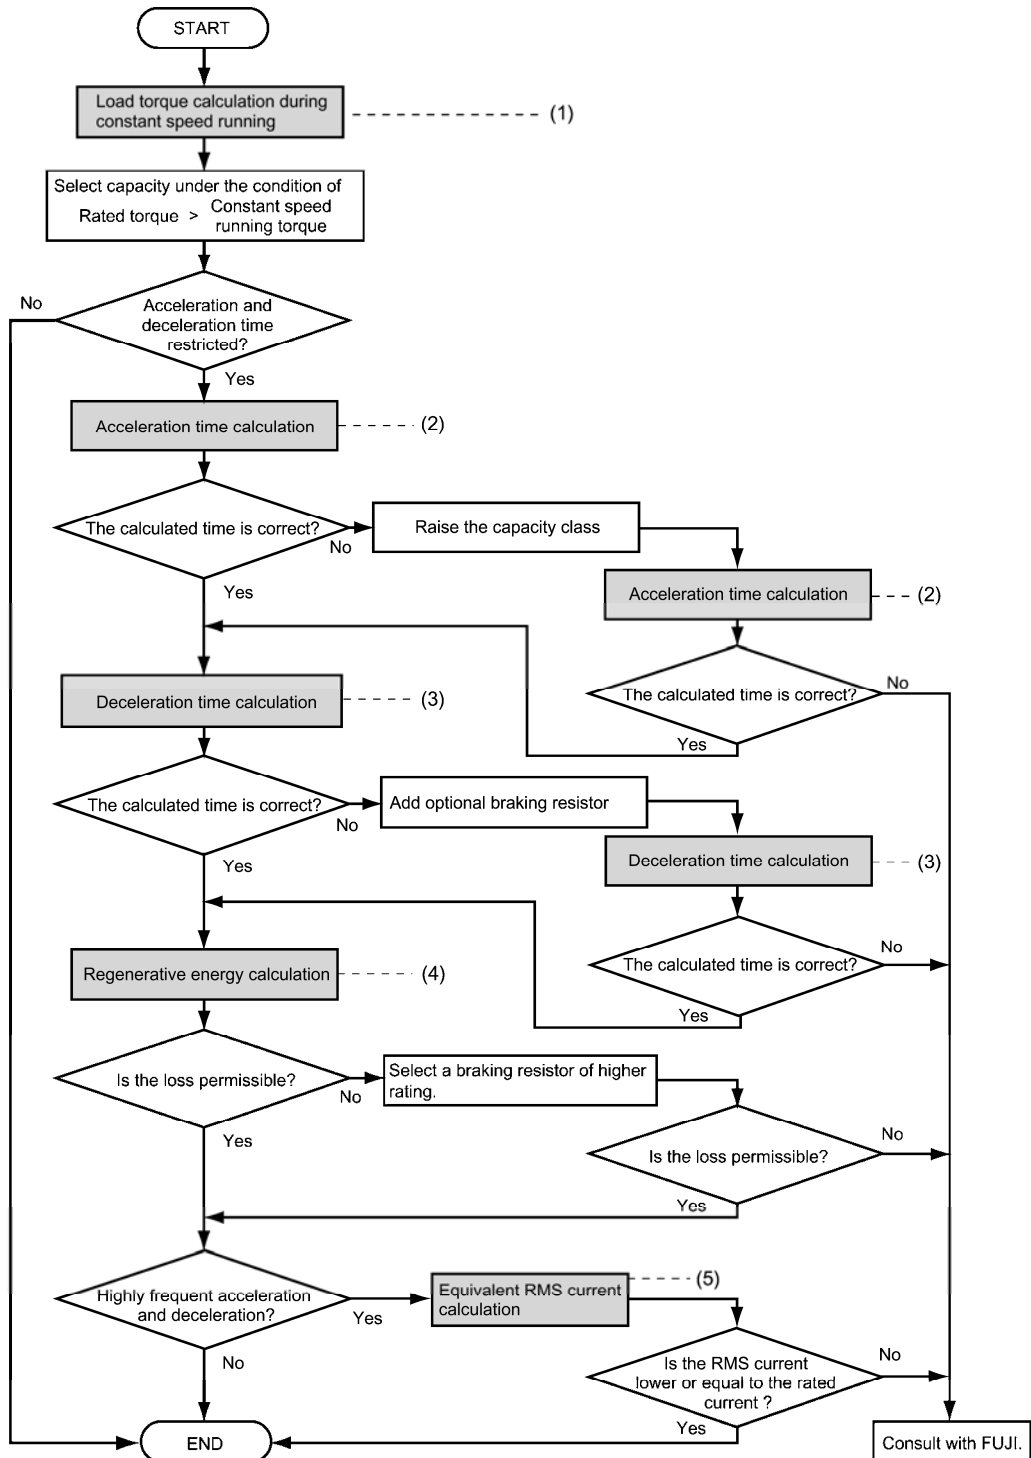

Figure 3.3 Selection Procedure
Figure 3.3 shows the general selection procedure for optimal inverters. Items numbered (1) through (5) are described on the following pages.